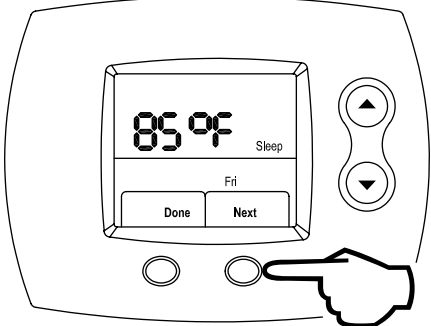

Figure 144
Step 27: Press the **RIGHT** (Next) button to lock in the Sleep period water temperature, as shown in Figure 144. Now, the Sleep time period is set for Friday.